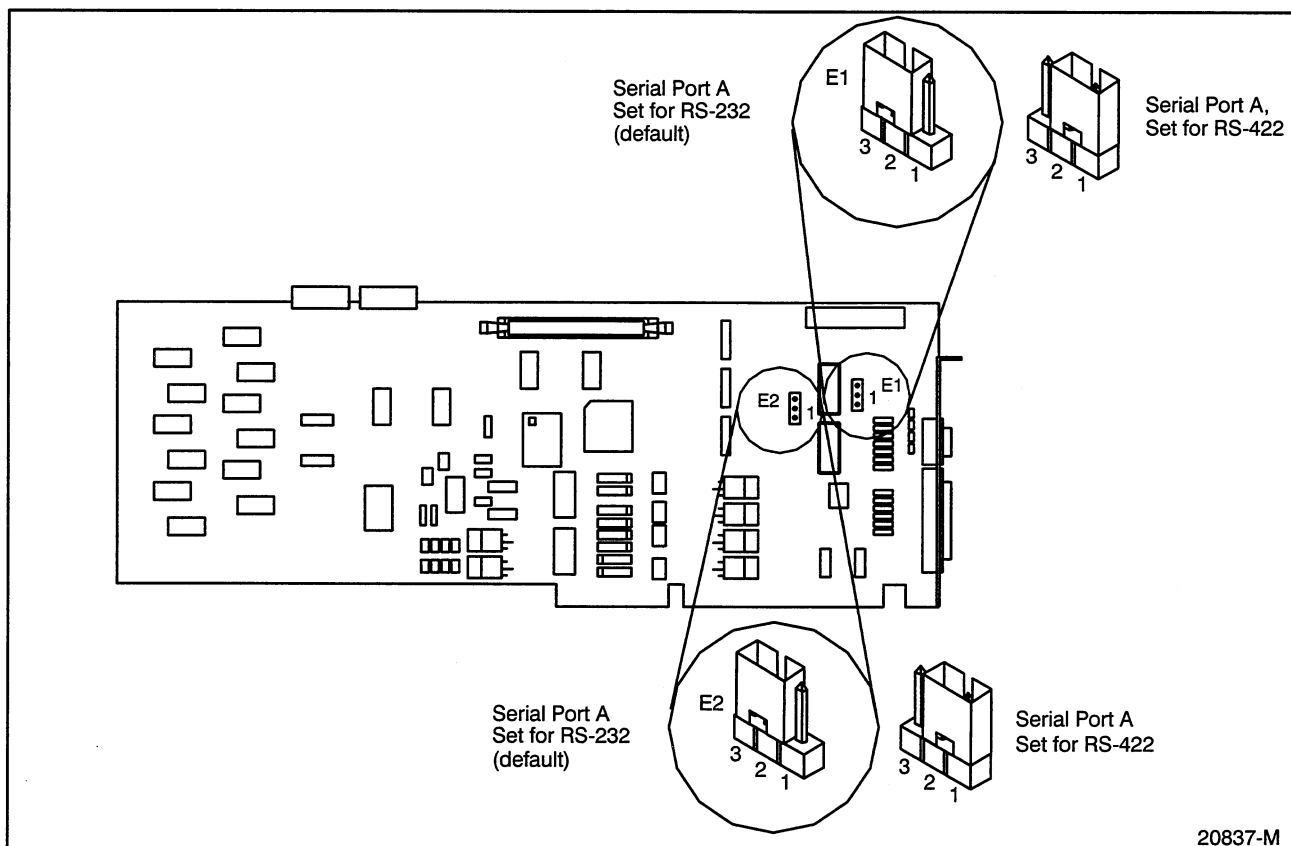

Figure 2 - Jumpers E1 and E2 Location and Settings
The settings of jumpers E1 and E2 determine which communication standard (EIA RS-232 or RS-422) Port A uses. By default, jumpers E1 and E2 are positioned over pins 2 and 3 so that Port A uses the RS-232 interface. Refer to figure 2.
- Step 2. Make sure the jumpers are set according to your needs. Refer to figures 2 and 3 in “Setting the Jumpers” section on page 3. For more information, refer to the AutoMax PC3000 instruction manual.